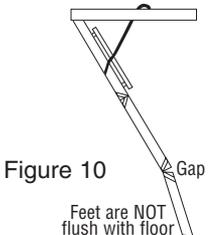

Figure 10
4. If the attic ladder looks like Figure 10, then both of the legs are too short, and the attic ladder is not safe to use.